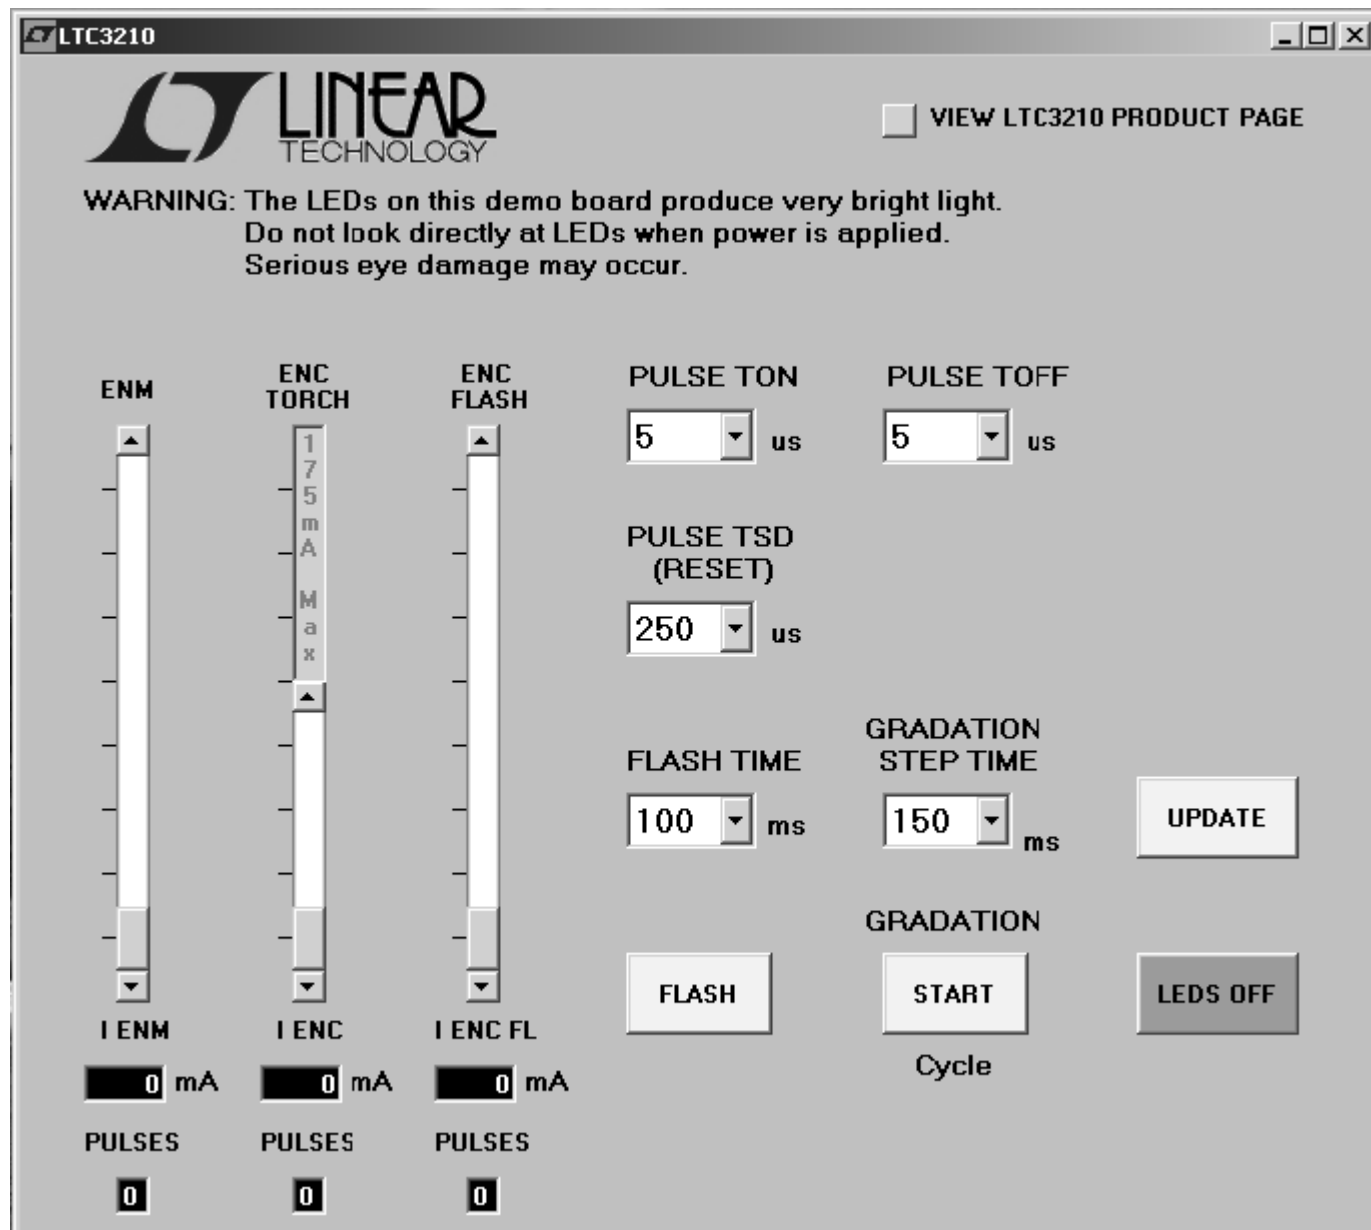

Figure 2. LTC3210 Control Window
5. Run the QuikEval™ program. The program detects the DC914 and displays the LTC3210 control window (shown in Figure 2).